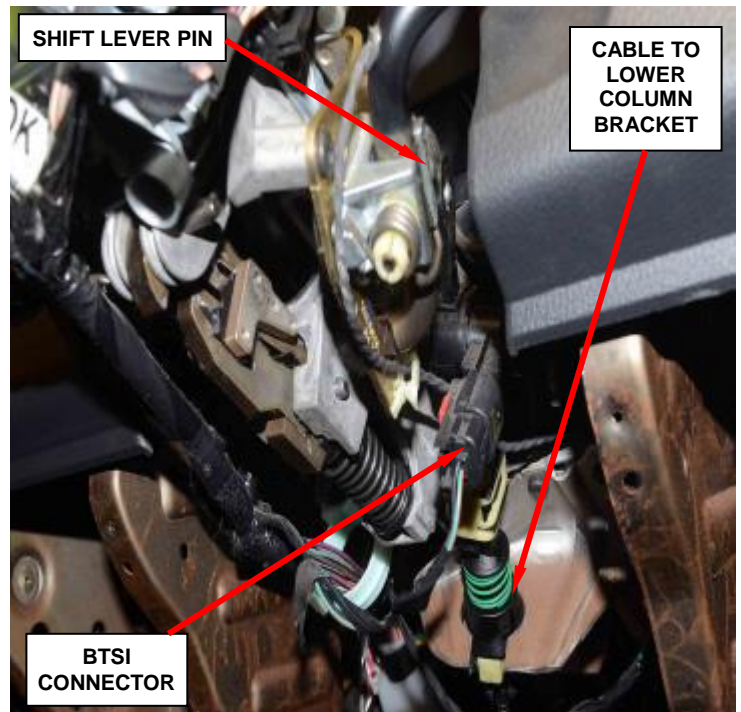

Figure 65 – Gear Shift Cable
13. Disconnect the gearshift cable from the column (Figure 65).